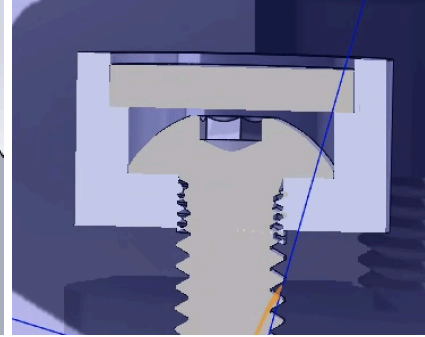

Figure 3
- This should complete the magnet mount build (Figure 3 is cross section)